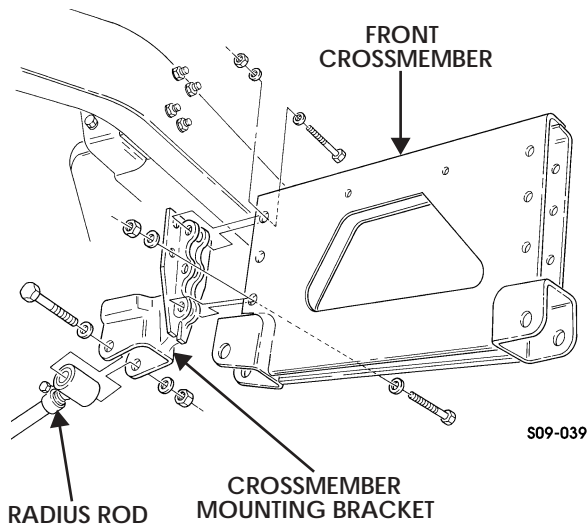

Figure 9-51: Front Crossmember Assembly
7. Remove two locknuts, washers, capscrews, washers, and two radius rods from crossmember mounting brackets. Discard locknuts (Figure 9-51).
1. Install two crossmember mounting brackets on front crossmember with six washers, capscrews, washers, and locknuts. Tighten locknuts to 90 lb-ft (122 N•m) (Figure 9-51).